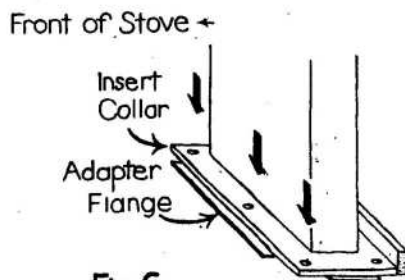

Fig. 6
11. Place insert collar over top of assembled adapter and position it on the adapter flange. Use the insert collar as a template. Drill a $\frac{1}{4}$ " hole in the adapter flange through the center front hole of the insert collar. (Figure 6)